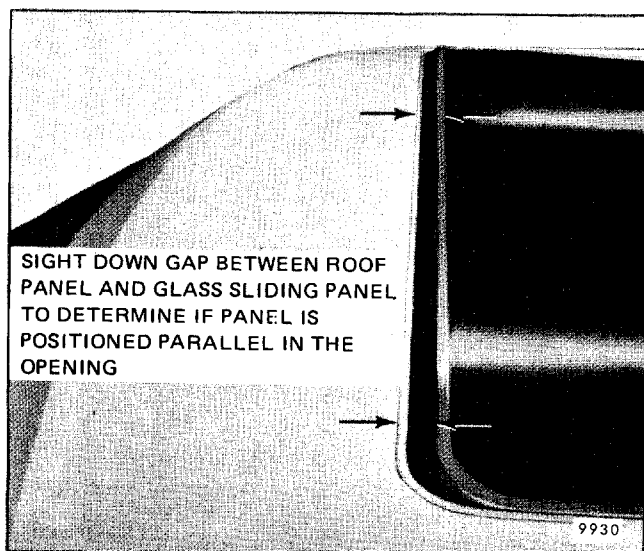

Fig. 8-96-Checking Sliding Panel Parallel Alignment
2. Sight down the opening to determine the parallel alignment with the forward edge of the roof panel (Fig. 8-96).